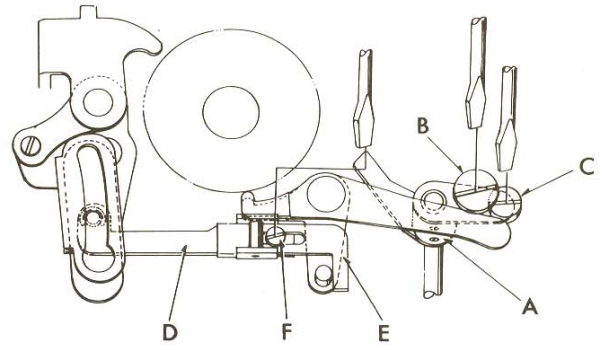

FIGURE 1
Set special stitch dial at □ marking. Place a piece of folded paper on needle plate and take eleven stitches (See Figure 1). Loosen screw (A) slightly and turn screw (B) clockwise or counter-clockwise so that the length is in the range of 3.85 mm to 4.5 mm. After obtaining the correct length, tighten screw (A) securely and recheck length.